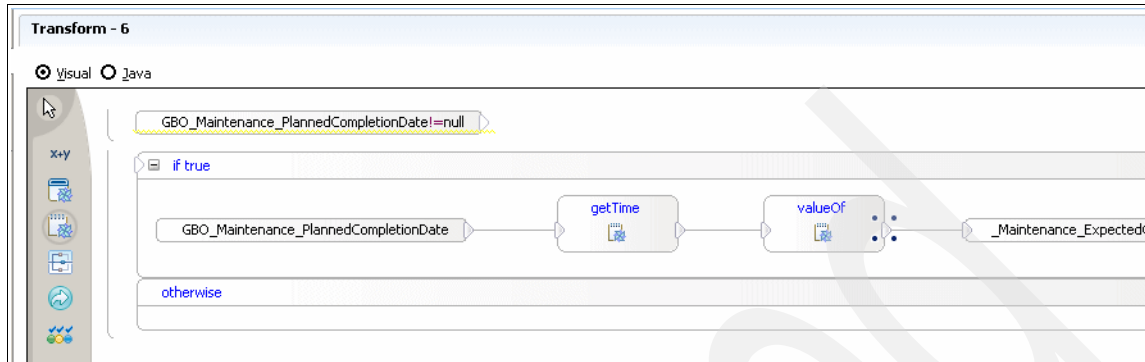

Figure 2-32 Completed custom transformation
22.Link all of these objects as shown in Figure 2-32. The custom code is completed. It will now convert from date to milliseconds to string.